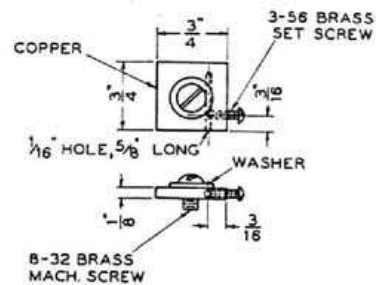

FIG. 3
**Mounting**—Medium four-pin bayonet base for use in a W.E. 143B or similar socket, for vertical mounting only with the base end down. Filament center tap, grid and plate terminals at top of bulb must have large cooling lugs if operated above 50 megacycles. A typical cooling lug is shown in Figure 3.